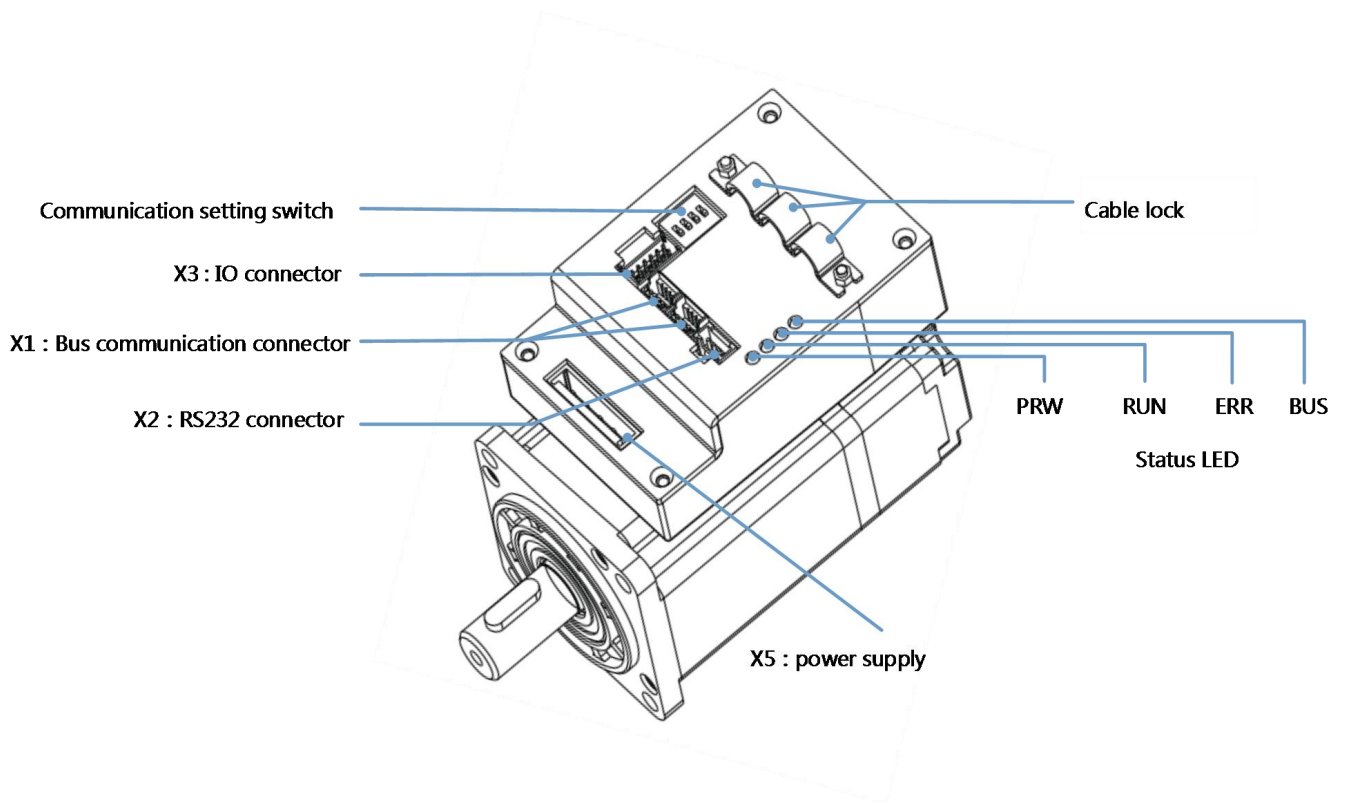
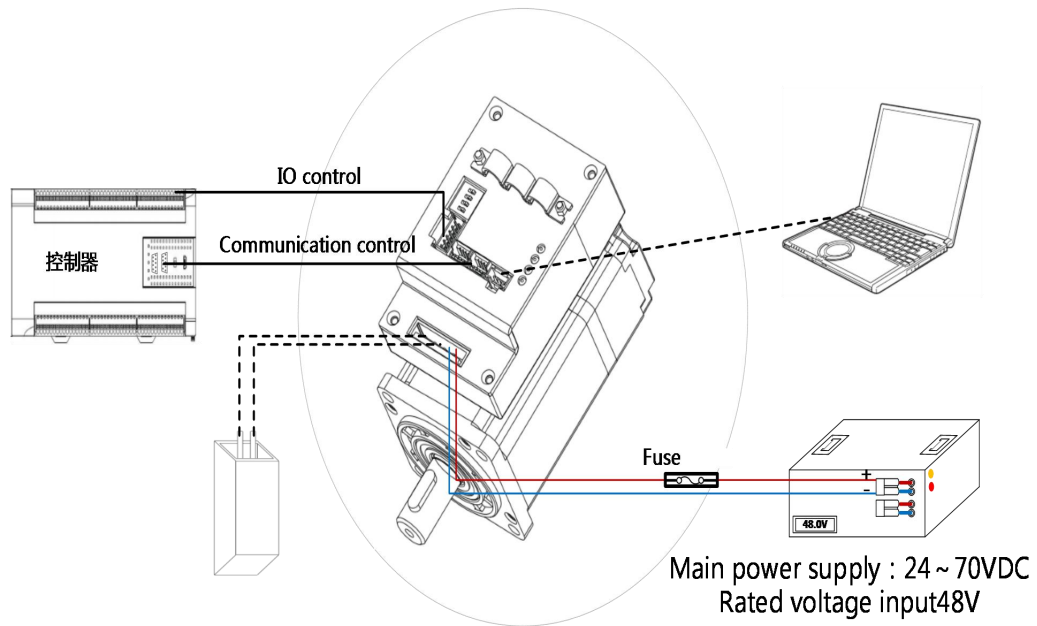

Figure 3-1 MD Series Interface Definition
Figure 3-2 MD series external wiring diagram
- The interface definition for different power products in MD series is the same, with MD60(200W) as an example in figure. 3-1 and figure 3-2
- For digital output, Figure 3-2 only shows NPN connection, and Figure 3-3 shows PNP connection